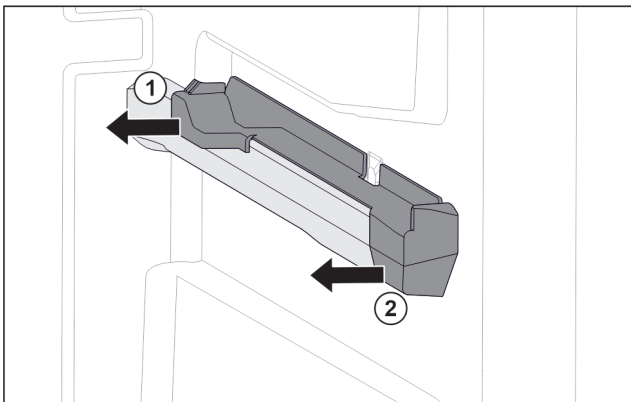

Fig. 107 Attachment on the right molded rib
- ▶ Pull off attachment at the back sideways. Fig. 107 (1)
- ▶ Pull off attachment at the front sideways. Fig. 107 (2)